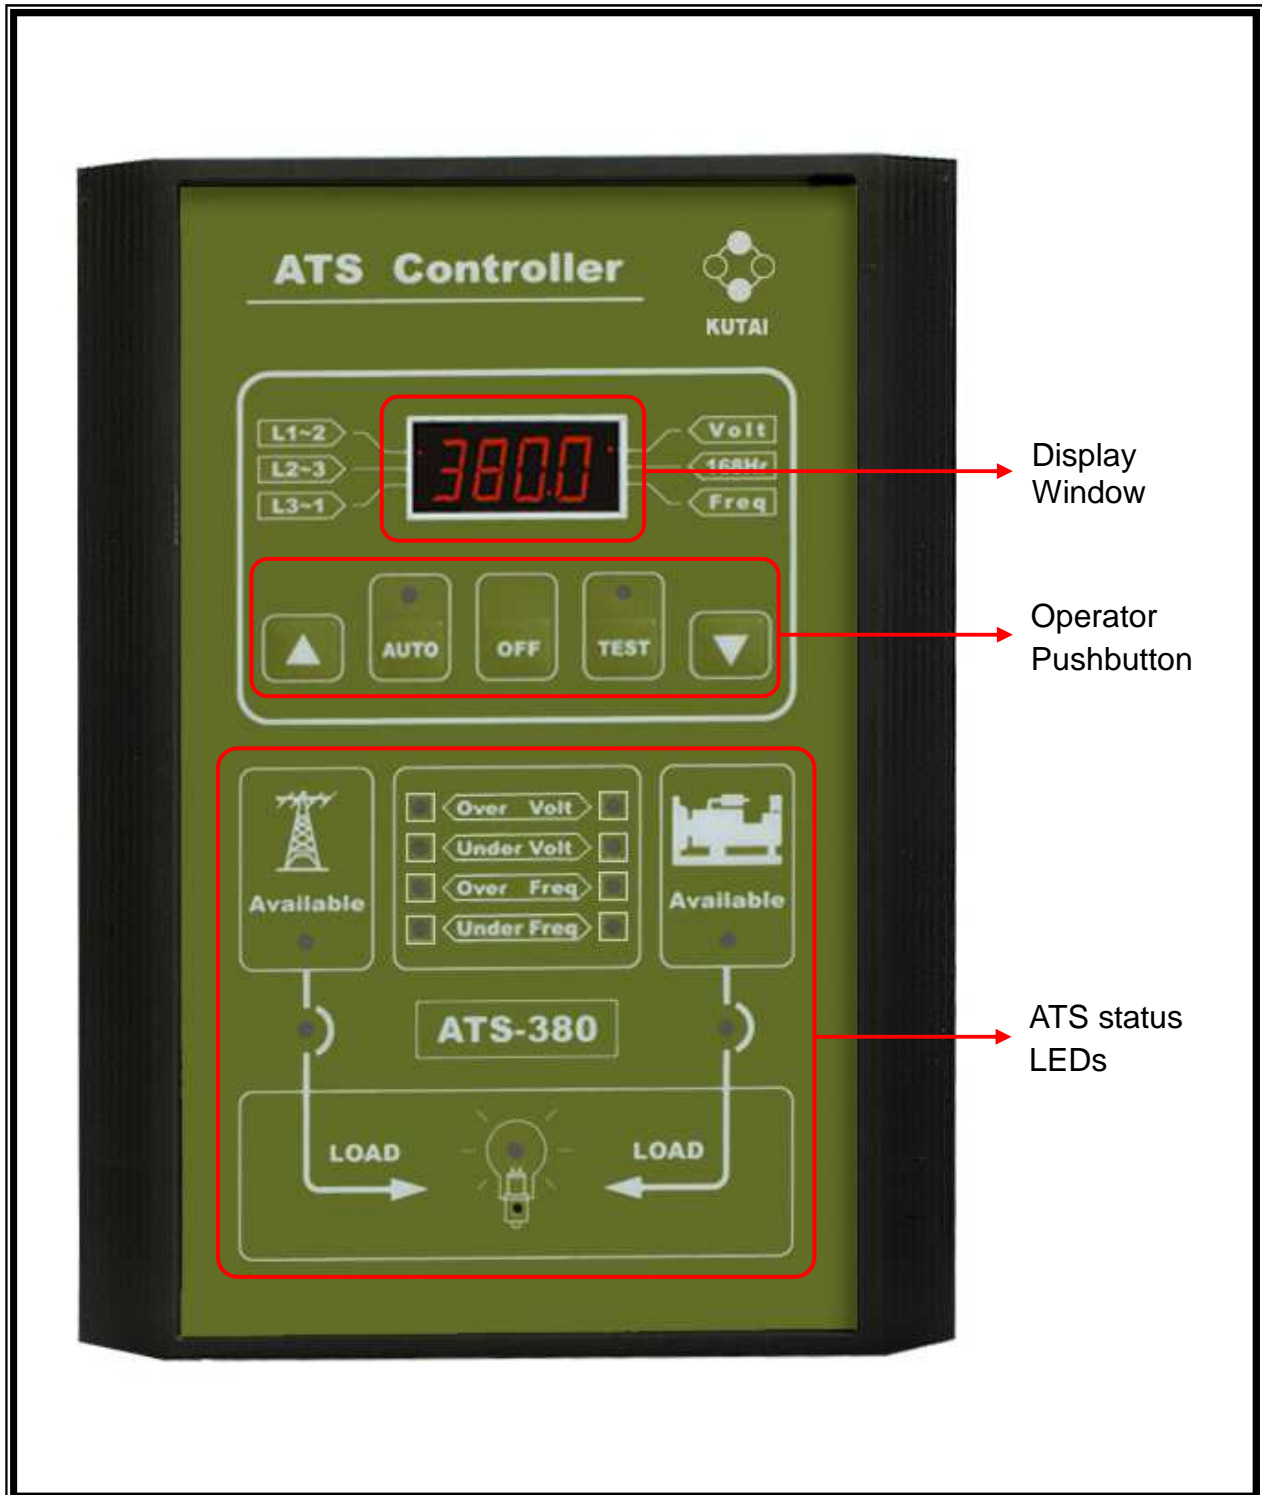

Figure 1
2.2 Display Window (Refer to Figure 1)
2.3 Operate Pushbuttons (Refer to Figure 1)
2.4 Panel LEDs Outputs (Refer to Figure 1)